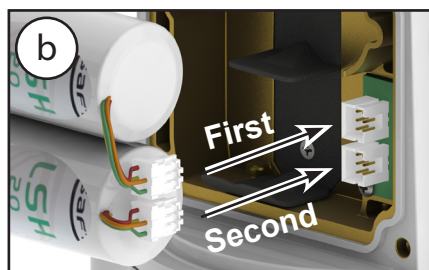

Figure 6. Non-rechargeable batteries
- Ensure the batteries are in place and plug the leads into the connectors in the order shown in Figure 6 and Figure 7.